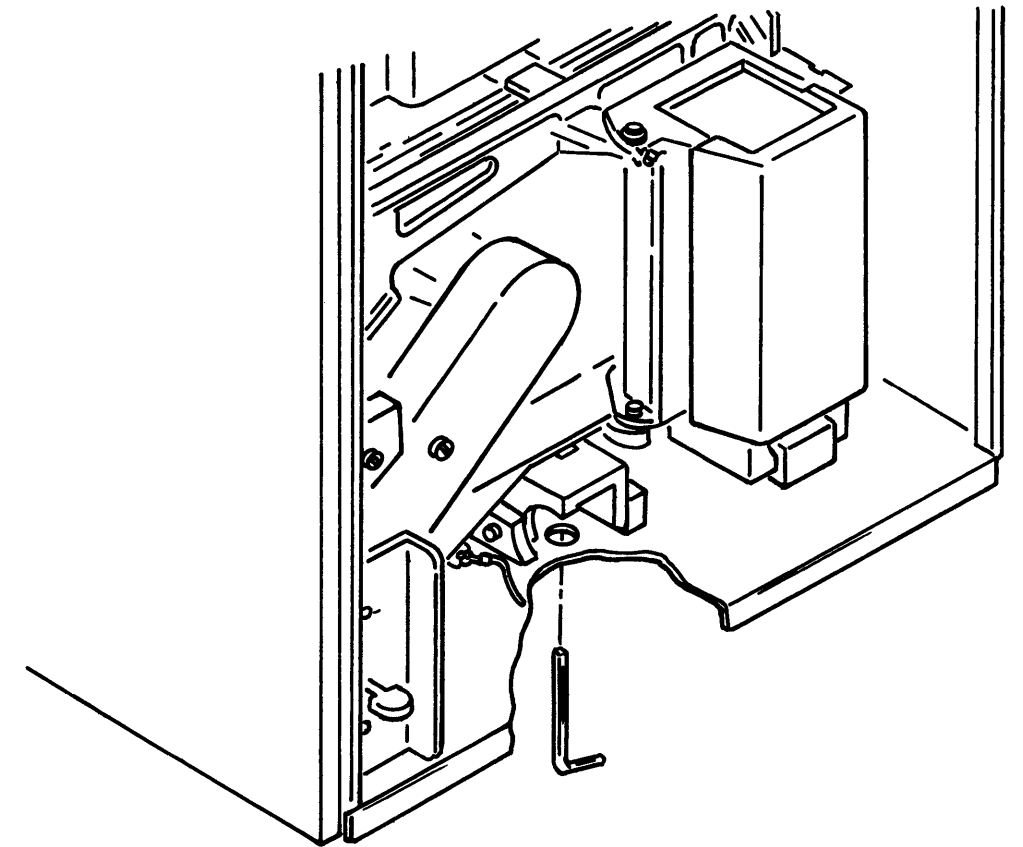

Figure FA541-3. Type B Shock Mount Access
2. Insert a hex wrench through the access hole in the machine frame base and remove the hex screw from the lower shock mount. See Figure FA541-3.